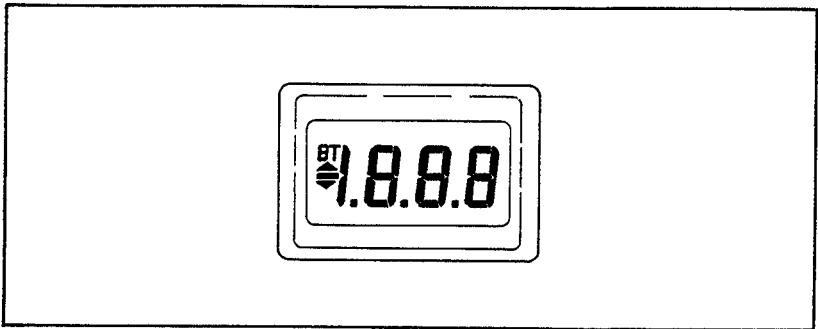

Figure 2-4. Display
2.22 As Figure 2-4 shows, your 8024B has a 3-1/2 digit liquid crystal display. Displayed values can range from 000 through 1999 (1999 is rounded to 2000 for ease of discussion). The decimal point position is determined by the selected range and is independent of selected function, except temperature. When the °C function is selected, the decimal point is not displayed. If the dc voltage or current measurement function is selected, the minus sign indicates that the input signal is negative with respect to the COMMON input terminal. If the °C measurement function is selected, the minus sign indicates that the input temperature is below zero. The absence of a minus sign indicates a positive reading. The minus sign is also used in conjunction with the up and down  $\blacktriangle$  arrows when analyzing the input signal using the level detector function.